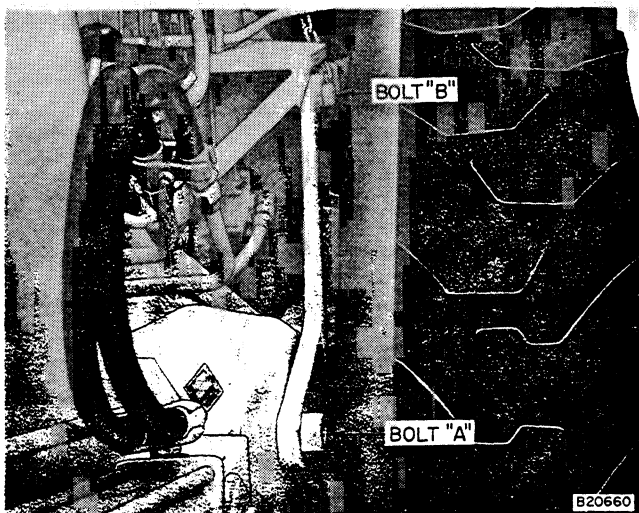

Figure 26 - Bolts to be Removed
3. REFERRING TO FIGURE 26: Remove bolts "A" and loosen bolts "B".
Refer to Figures 26, 27, 28, 29, and 30.